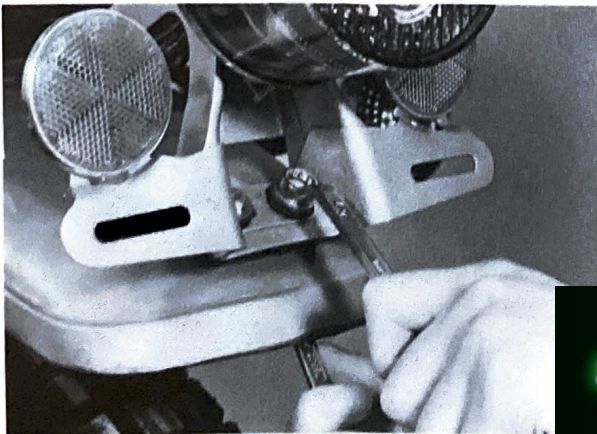

Fig. 39
27. Secure the rear part of the license bracket using two shoulder bolts, plain washers. (Fig. 39)